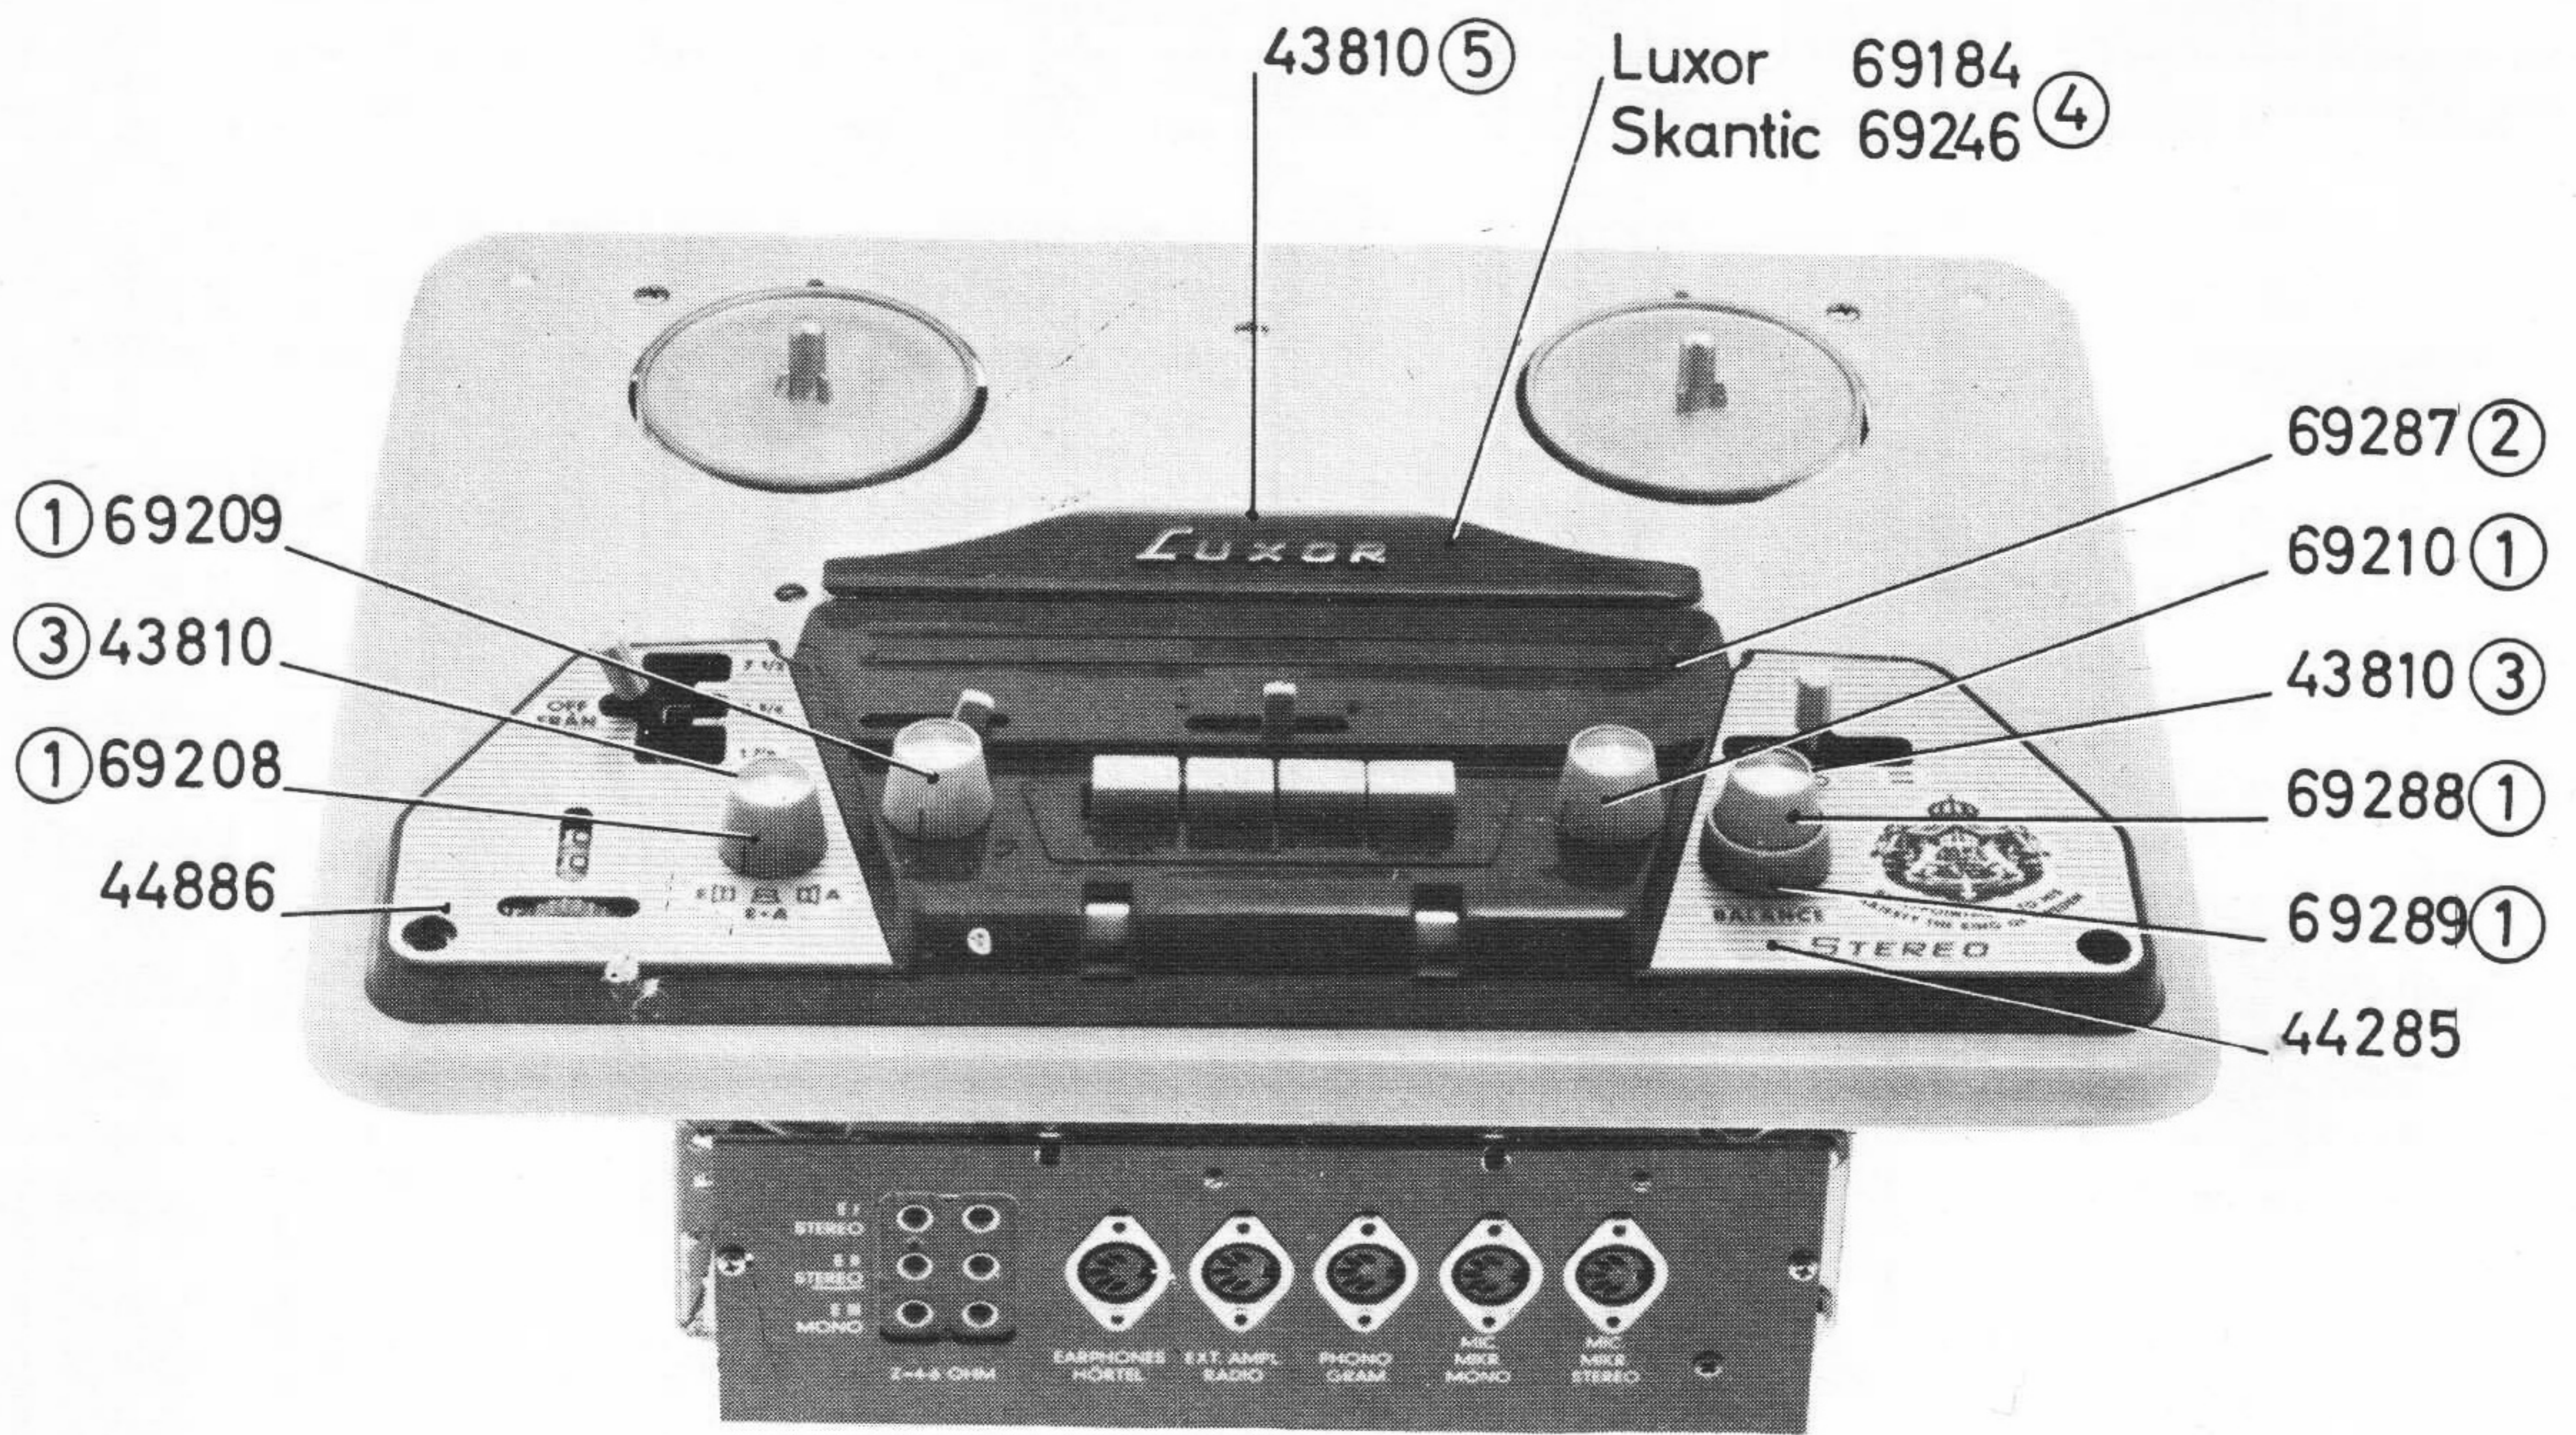

Fig. 1
1. BORTTAG DE FEM MANÖVERRATTARNA (1). SE FIG. 1. OBS! DÅ RATTARNA HAR OLIKA MARKERING, SE TILL VID IHOPMONTERINGEN ATT RÄTT RATT KOMMER PÅ RÄTT PLATS.
2. BORTTAG DEN FRÄMRE MASKEN (2) GENOM ATT LOSSA TVÅ SKRUVAR (3). SE FIG. 1.
3. BORTTAG DEN BAKRE MASKEN (4) GENOM ATT LOSSA SKRUVEN (5). SE FIG. 1.